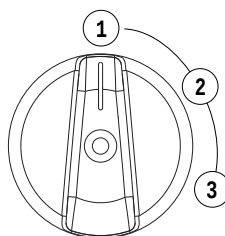

Figure 3-2. PowerDial Positions
1. See Figure 3-2. Rotate the PowerDial to CHOKE (3).
4. See Figure 3-2. When engine starts, rotate Off/Run/Choke dial to RUN (2). Choke operation is reduced as Off/Run/Choke dial is rotated towards RUN.
3. See Figure 3-2. Rotate PowerDial to OFF (3).
1. See Figure 3-2. Turn PowerDial from OFF to RUN. This will open the fuel valve and permit starting.